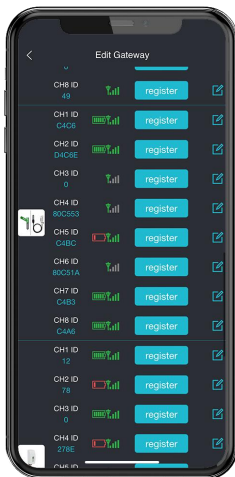

Figure 32: Edit Gateway on Ecowitt APP
- Up to 8 channels supported. Channel names can be edited on the app, like the Figure 32.